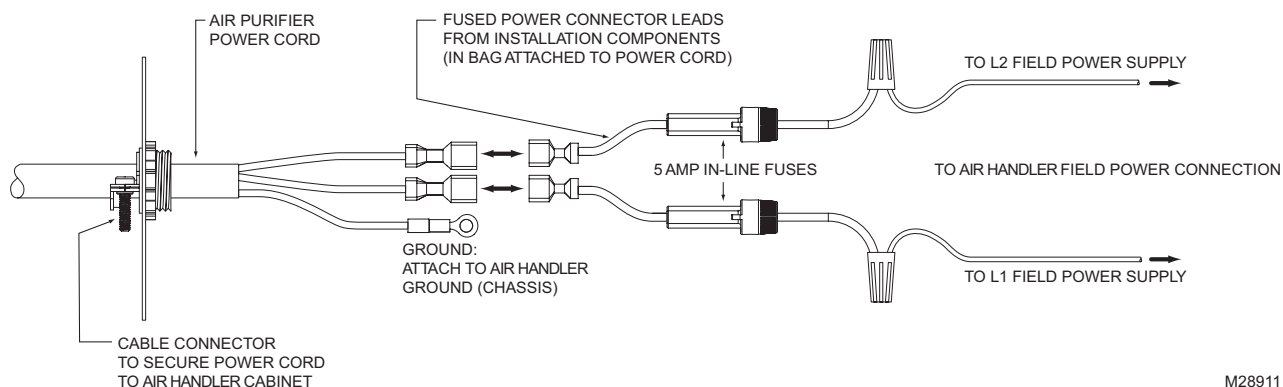

Fig. 13. Honeywell Enhanced Air Handler chassis ground.
- Attach the quick connect terminals to the fused power connector leads (in parts bag attached to power cord) and connect to incoming field power. The terminals are polarity neutral and can be connected in either polarity. Attach the ground ring to air handler chassis ground (see Fig. 13 on page 16).